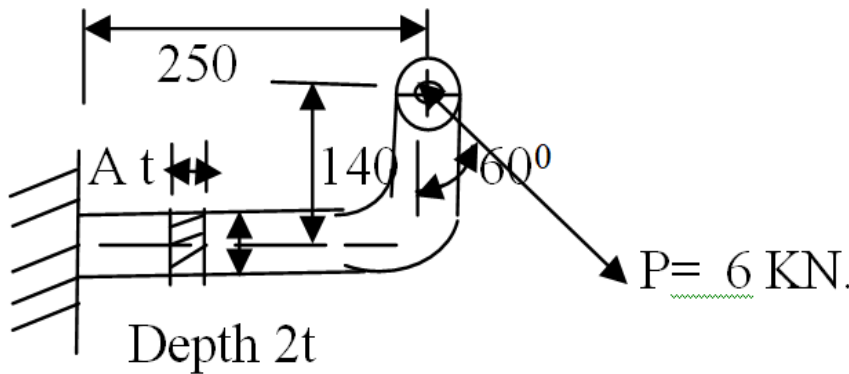

Figure 1. ( All dimensions are in mm )
- C) A wall bracket with a rectangular cross section is as shown in the Figure 1, the depth of the cross section is twice that of the width. The force  $P$  is acting on the bracket at  $60^\circ$  to the vertical is  $6 \text{ kN}$ . The material is made of Gray cast iron FG 250 and the factor of safety is 3. Determine the dimensions of the cross section of the bracket. Assume maximum normal stress theory of failure.